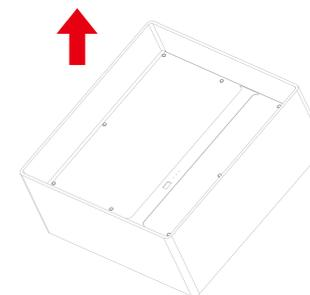

Figure 2.6 Remove Storion-SMILE-B3 Packaging
Step 1 Take out Storion-SMILE-B3 from the packaging box, as shown in Figure 2.6